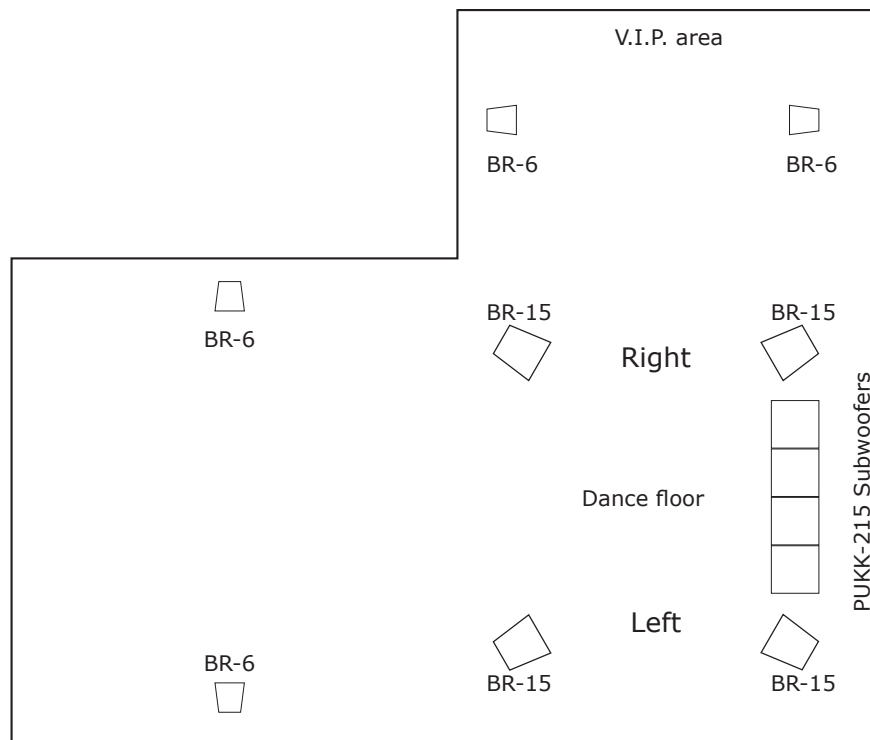

Fig. a3
**Example set-up B: Club with dance floor** (Layout diagram Fig. a3)